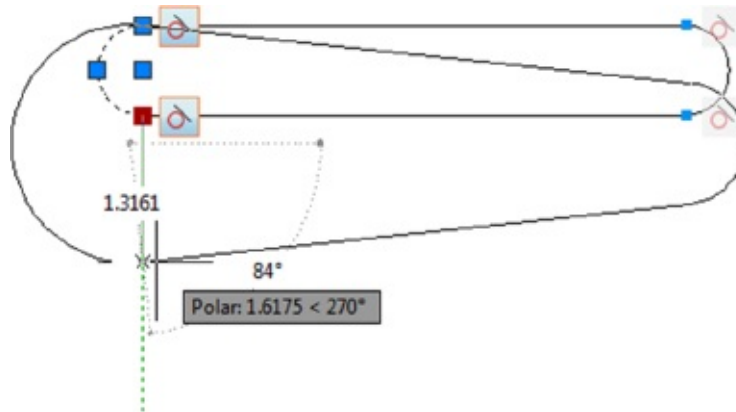

FIGURE 16.7 Without the Horizontal constraint, both lines change as the arc is edited.
5. Move the grip downward. This time both the lines change their orientation, as shown in Figure 16.7.